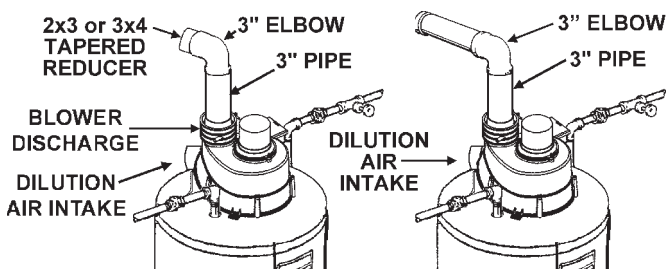

FIGURE 15.
3. Make sure there is no packing material in the discharge of the blower or the intake of the dilution air restrictor, see Figure 15.
Figure 15 shows the optimal placement of the 2" to 3" or 3" to 4" reducer; however, the vent can be reduced at any point in the vent system as long as the maximum and minimum vent length requirements are met.
Except where instructed in this manual, the mixing of 2", 3" and 4" vent pipe is NOT ALLOWED. If 2" pipe is to be used, then a 2" to 3" bell reducer is recommended. Figure 15 shows the recommended location for the bell reducer. If the bell reducer is located at the rubber boot on the blower assembly, then a short section of 3" vent pipe needs to be installed in the rubber boot for proper connection of the 2" to 3" bell reducer. That length can be of the minimum length required for the connection.
If 4" pipe is to be used, then a 3" to 4" bell reducer is recommended. Figure 15 shows the recommended location for the bell reducer. If the bell reducer is located at the rubber boot on the blower assembly, then a short section of 3" vent pipe needs to be installed in the rubber boot for proper connection of the 3" to 4" bell reducer. That length can be of the minimum length required for the connection.